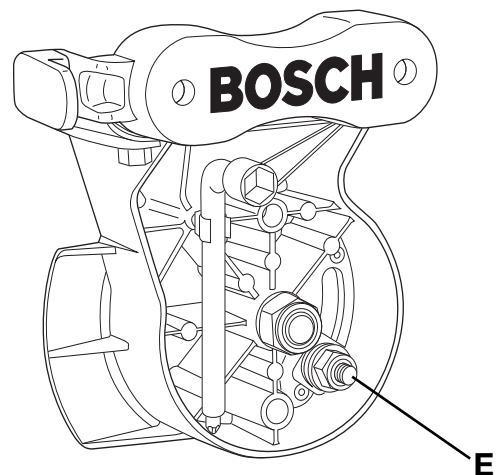

Figure 40. Bevel Lock Lever Tension Adjustment
2. Place 17mm socket wrench on bolt head "E" (Figure 40).